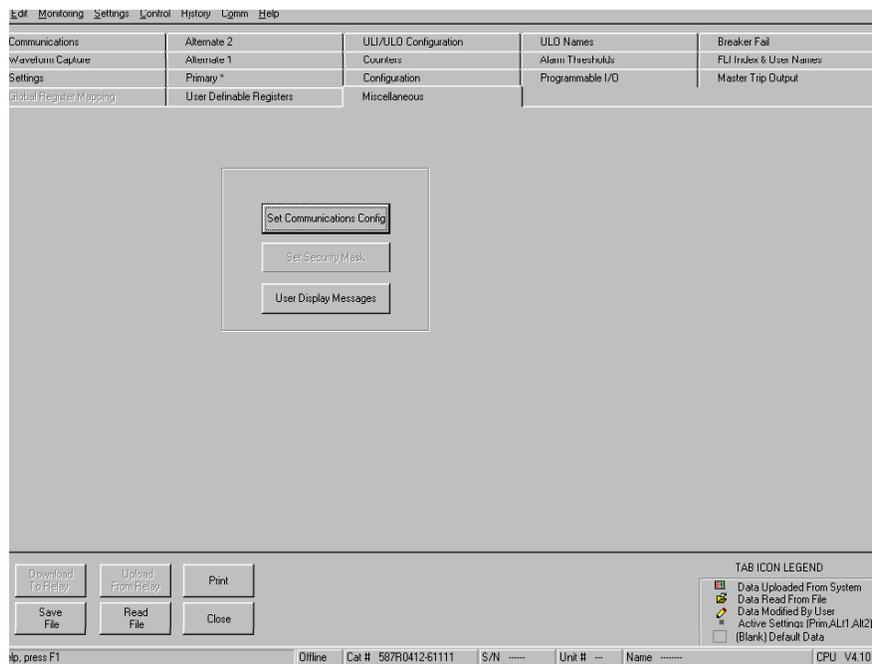
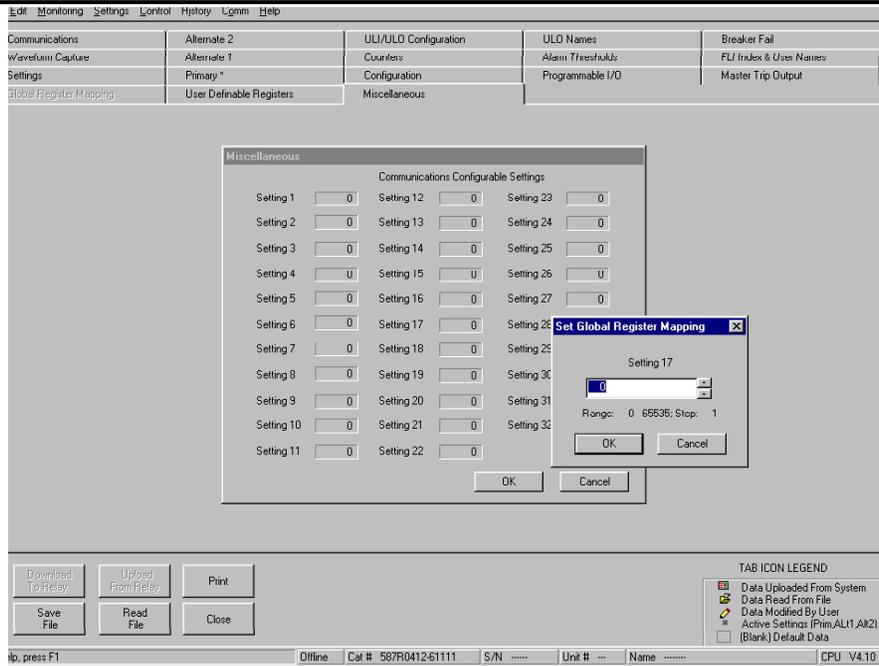

Figure 5-9A. Miscellaneous Setting Screen
Figure 5-9B. Miscellaneous Parameter Configuration Screens
3. Select the Miscellaneous Tab in WIN ECP to access the screen to configure the UDR Analog Reporting feature. The screen is shown in Figure 5-9A. Select the submenu selection "Set Communications Config" to access the screen to parameterize the device. The Analog Reporting Configuration process may only be accomplished via WIN ECP. The process may not be accomplished via the FRONT PANEL INTERFACE. Parameters 17, 18, and 19 are available to parameterize this feature. Access the sub window configuration screen by "clicking" over the field to be configured. Figure 5-9B shows the subwindow available for configuration.